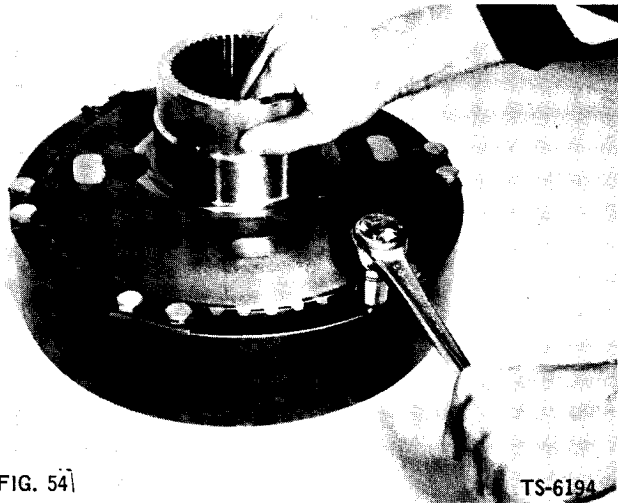

FIG. 54
2. If replacement of internal gear is necessary, cut lockwires and remove bolts securing internal gear to hub (Fig. 54). Separate internal gear from hub.
NOTE: On some axle models, internal gears are secured to hubs with bolts inserted through drilled holes in internal gear and screwed into hub instead of as shown in Fig. 54.